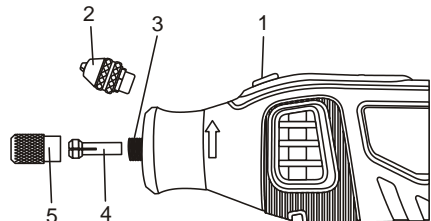
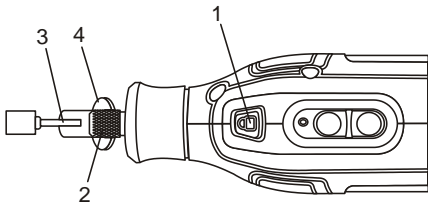

Fig. 2
Fig. 3
2. Depress the spindle lock button (1) and slowly turn the 3-jaw chuck (2) until the spindle lock button locks the spindle (3) (Fig. 2).
4. Insert the appropriate sized collet (4) into the spindle and thread the collet nut (5) onto the spindle by turning it clockwise while holding the spindle lock button down.
2. Depress the spindle lock button (1), and slowly turn the collet nut (2) until the spindle lock button locks the spindle in place (Fig. 3).
4. Insert the shank of the accessory (3) into collet at least 3/4".
- b) The flex shaft can also be attached to the tool using a 1/8" collet and collet nut. Install the collet and collet nut as shown in Fig. 2.
To change the collet or to install an accessory bit in the flexible shaft, refer to the steps listed in the sections entitled "Removing the 3-jaw chuck and installing a collet" (Fig. 2) and "Installing accessory bit when using the collet system" (Fig. 3).